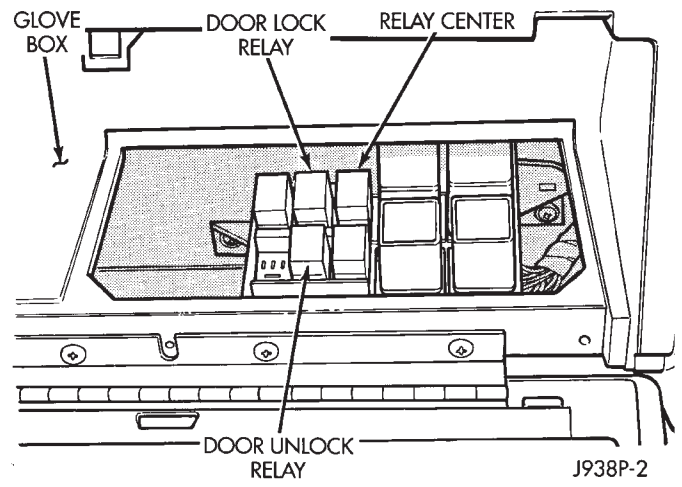

Fig. 11 Door Lock/Unlock Relays
(2) Remove lock or unlock relay as required (Fig. 11).